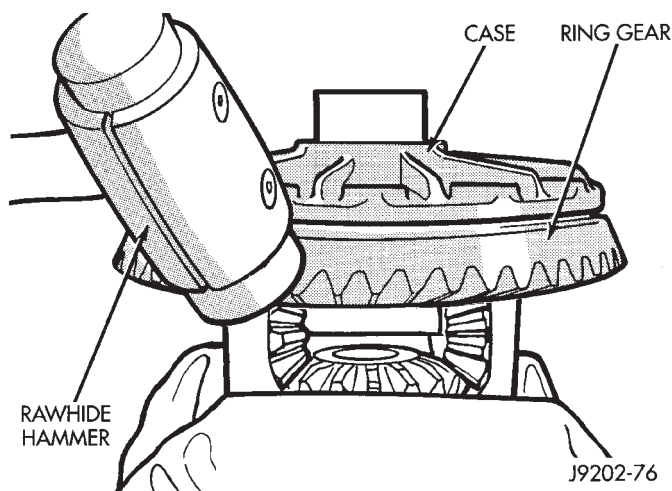

Fig. 6 Ring Gear Removal
(3) Remove and discard the ring gear bolts. Tap the ring gear with a rawhide or plastic mallet and remove (Fig. 6).